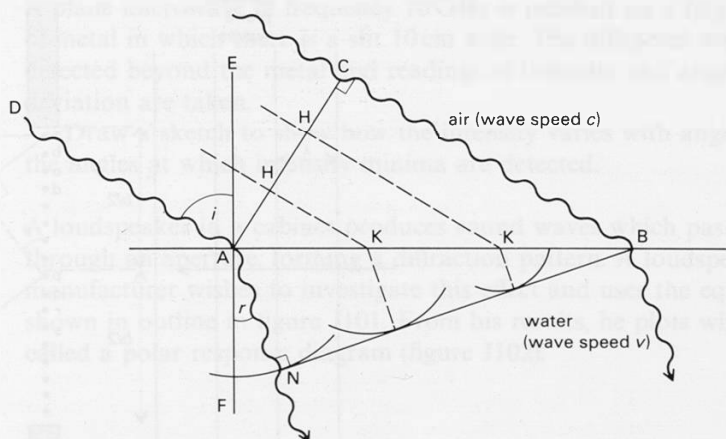

Figure J98
- b** Figure J98 is part of Huygens's explanation of the refraction of light as it passes from, say, air into water or glass. AB is the flat surface of, say, water. Identify the lines AC, HK, and NB.
- c** Show that $\sin i / \sin r = c/v$, where i and r are the angles of incidence and refraction (angles DAE and FAN respectively in figure J98). This ratio, the ratio of the speed of light in air (strictly in a vacuum) to its speed in the transparent material is called the refractive index of the material.